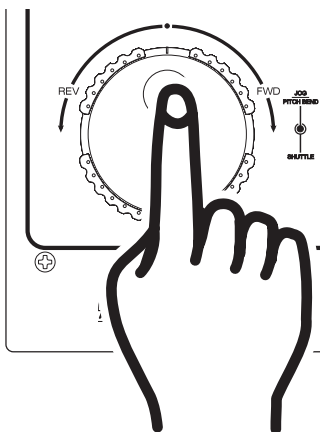

Figure 17
Adjusting the Pitch Slider's Range (21): You may change the *PITCH SLIDER'S* (23) operating range. To change the operating range be sure the pitch function is turned on, see figure 17. The pitch percentage can be changed between $\pm 8\%$, $\pm 12\%$, and $\pm 16\%$. $\pm 8\%$ will allow the least amount of pitch manipulation and $\pm 16\%$ will allow the most amount of pitch manipulation. To adjust to the different values tap the *P.SELECT BUTTON* (8). The LED beside the *PITCH BUTTON* (7) will indicate which pitch percentage mode the unit is operating in. Glowing green for $\pm 8\%$, glowing orange for $\pm 12\%$, or glowing red for $\pm 16\%$. Note, the pitch function must be activated to receive a LED reading.